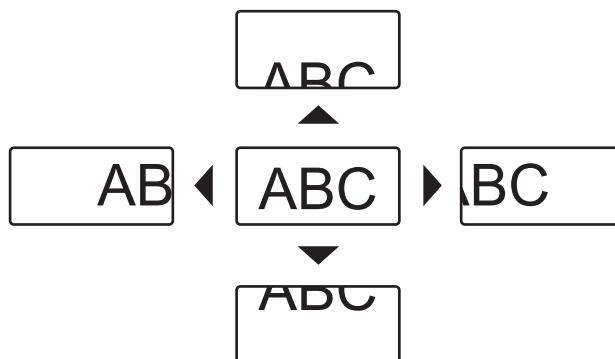

Fig. 1
**5) Press ▲▼◀▶ to move the zoom position. (Fig. 1)**